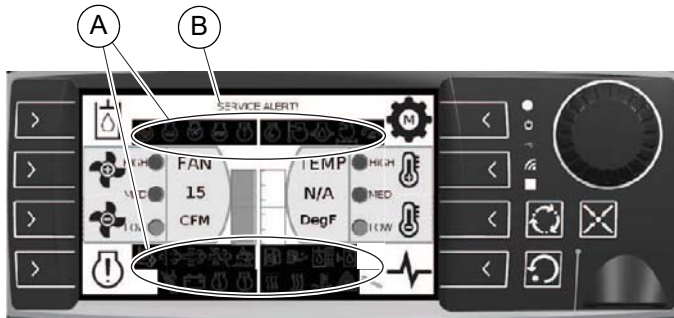

Figure 2-9. Alerts Display
See Figure 2-9. The controller displays many alerts in specific areas of the controller (A). Alerts are often accompanied by explanatory text (B).